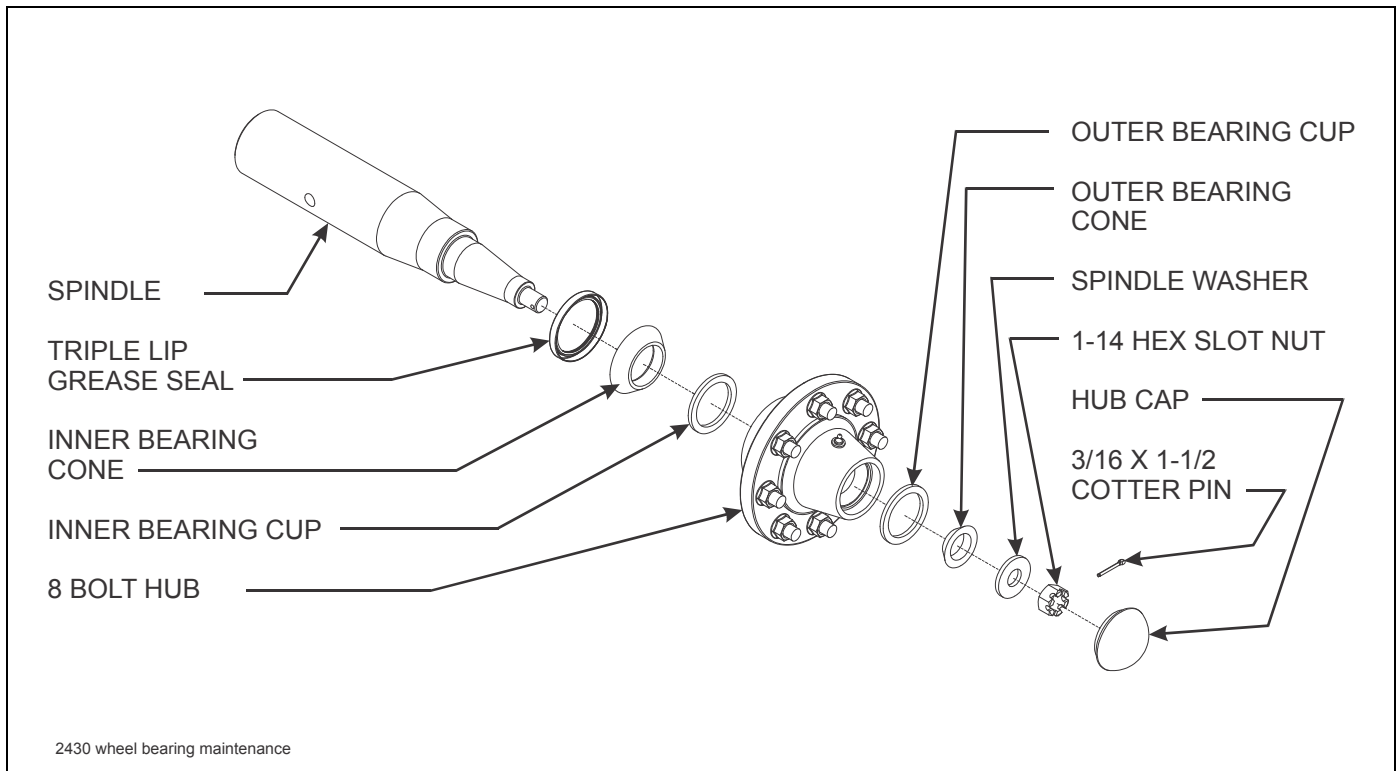

Figure 4-12: Wheel Bearing Maintenance
3. Remove the hub cap, cotter pin, slotted nut and washer (**See Figure 4-12.**)